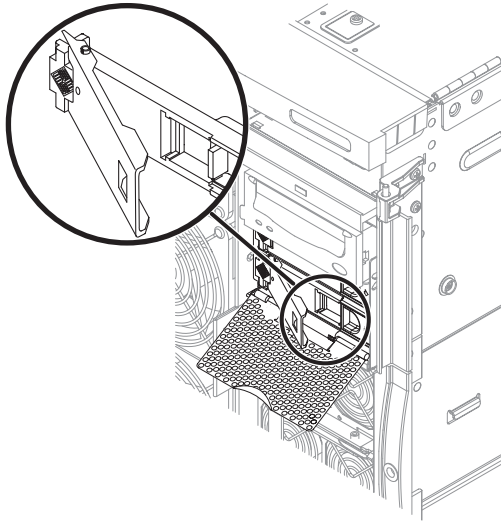

FIGURE 5-3 Ejecting the Hard Disk Drive
8. Extend the drive handle to disconnect the drive from the system (FIGURE 5-3).